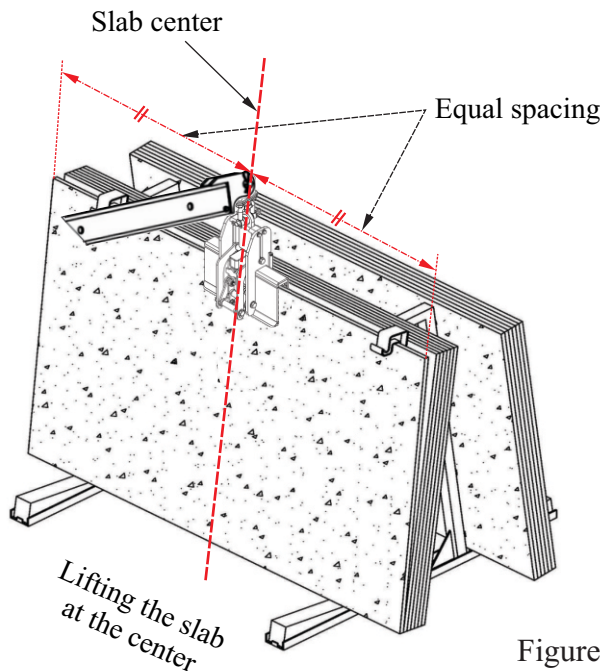

Figure 3.1
- Lowering the lifter to be perpendicular and place at the center of the slab (Figure 3.1).